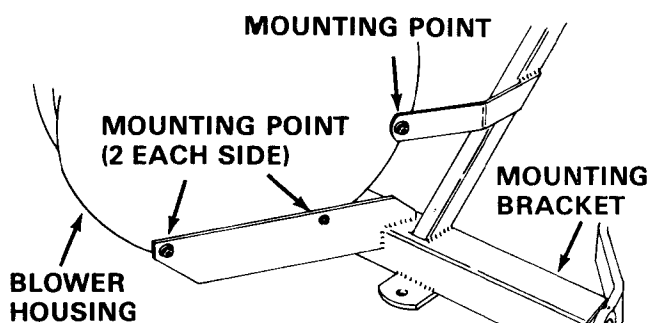

FIGURE 10
4. Install the blower housing to the mounting bracket with bolts and nuts provided. See Figure 10.